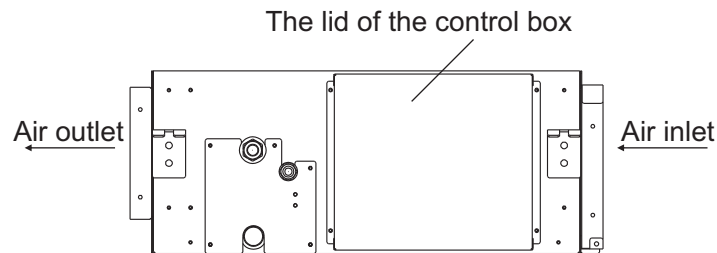

Fig.6.1 Remove the screws on the control box
- When clamping the wiring, use the included clamping material as shown in the FIG.6.1 to prevent outside pressure being exerted on the wiring connections and clamp firmly.
- (1) As shown in Fig. 6.1, remove the screws on the control box.
- (2) Connect the power cord and earth wire to the main terminal.
- (3) The remote control wire to the subsidiary terminal box.
- (4) Connect the power supply of the indoor and outdoor units to the main terminal.
- (5) Tie the wire in the control box with the clamp tightly.
- (6) After finished the wiring, seal the wiring hole with the sealing material ( with the lid ) to prevent the condensed water and insects entering.